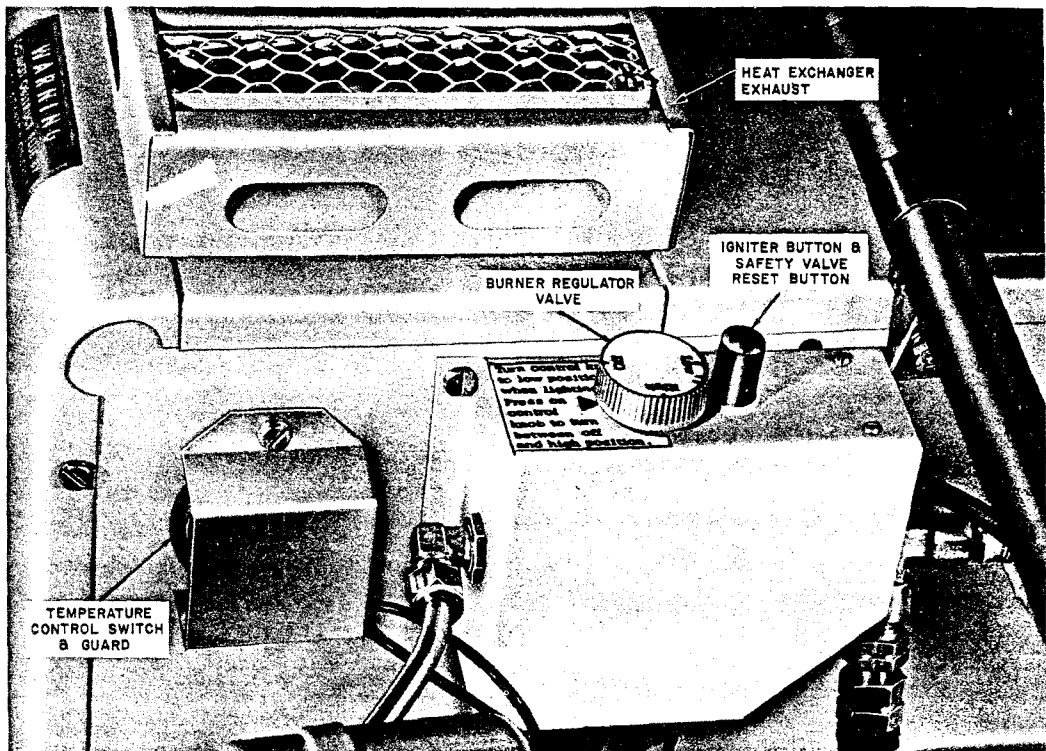
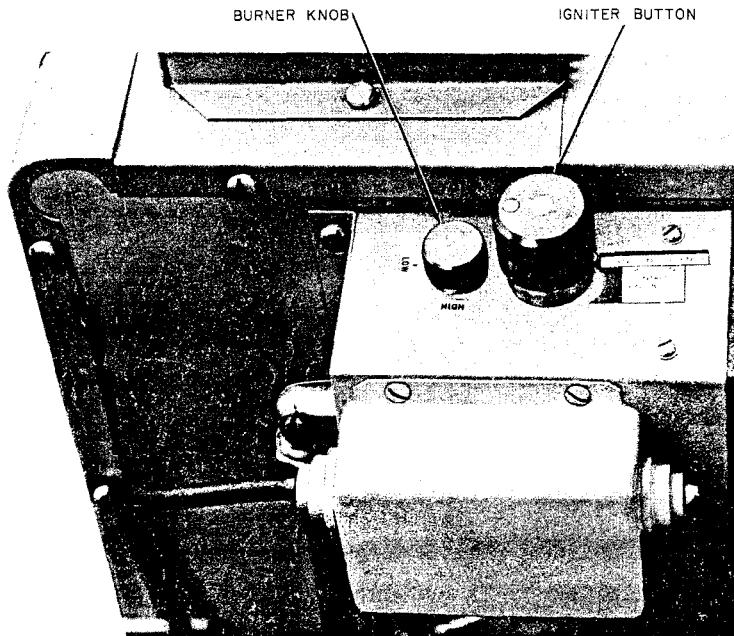

Fig. 3—Generator-Heater-Ventilator—PEG-8 Controls
Fig. 4—Generator-Heater-Ventilator—PEG-8A Controls
2.03 ♦A description of the controls and major components of the generator-heater-ventilator is listed in (a) through (g). Fig. 3 illustrates the PEG-8 controls and Fig. 4 illustrates the PEG-8A controls.♦